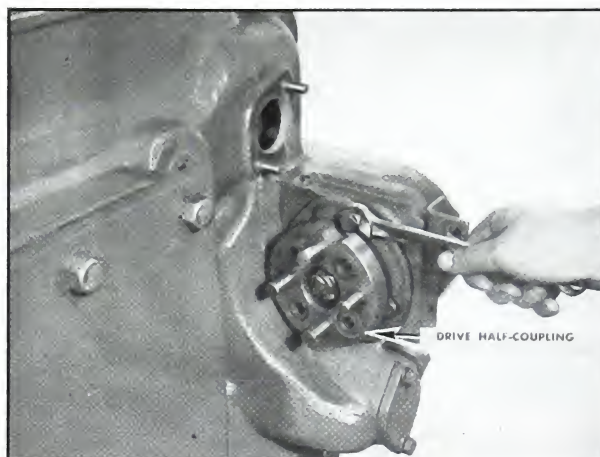

Fig. 12-27. Supercharger drive unit
1. Assemble the unit to the gear housing, tapping lightly to insert the shaft through the ball bearing in the gear housing, and secure with four capscrews and lockwashers. (Fig. 12-27).